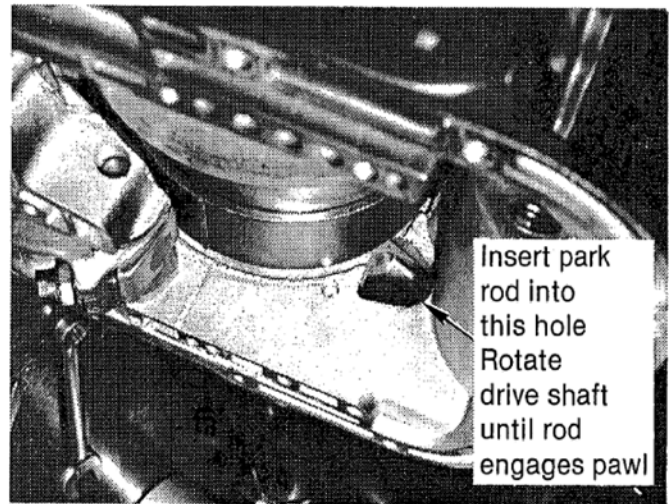

FIGURE 13
STEP 15. Guide the valve body up into the transmission. Insert the park rod into the hole in the rear of the case first and rotate the drive shaft until the rod engages the pawl. (See Fig. 13) Align valve body with case and install valve body against case. (Be careful not to damage neutral safety switch. A small screwdriver can be used to retract the switch out of the way during installation.)